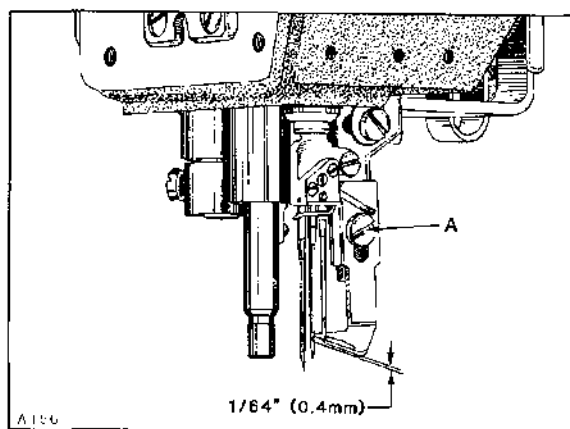

Fig. 26
With needle bar at TOP of stroke, height of stationary spreader thread guide should be positioned with its **UNDERSIDE PORTION** (laterally in line with needles) $1/64$ inch (0.4mm) below the **TIP OF RIGHT** needle as shown in Figure 26. Adjustment can be made by loosening screw (A), reposition as required...